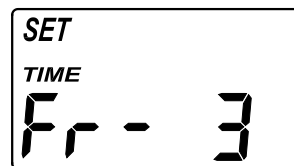

FIG. 40
2. Press the SELECT button three times, so that "SET Fr TIME" appears in the display (See Figure 40).